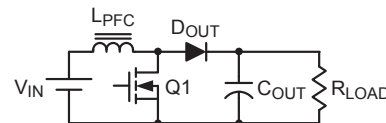

Figure 2. Typical Boost Converter
Figure 2 shows a typical Boost converter. When the MOSFET turns on with a fixed on-time ( $T_{ON}$ ), the inductor current can be calculated by the following equation (1).